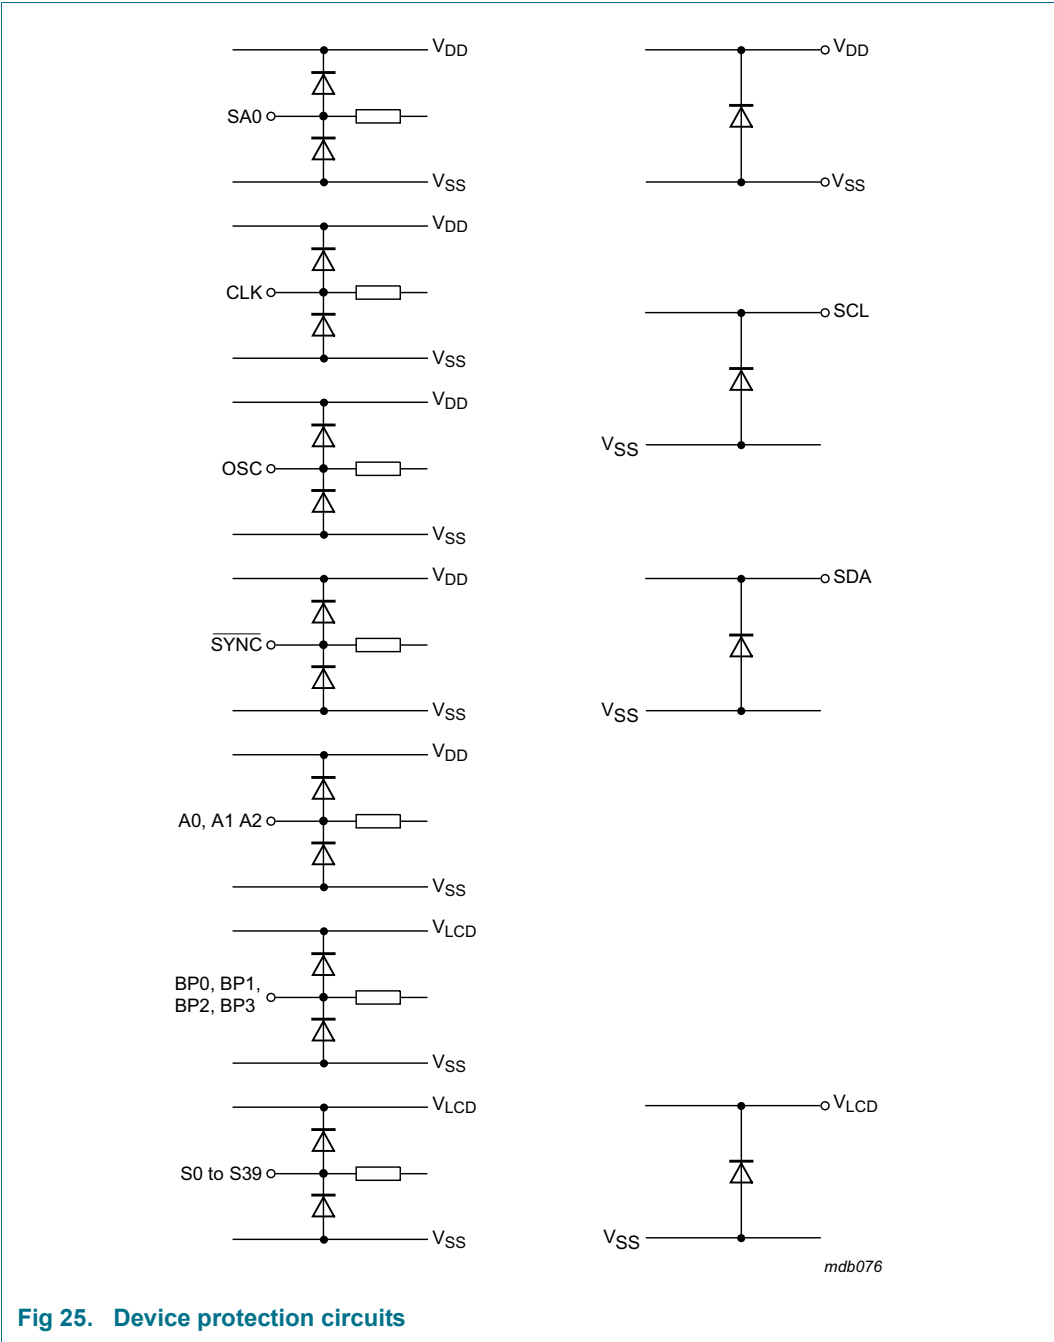

Fig 25. Device protection circuits
- [4] When tested, I²C pins SCL and SDA have no diode to V_{DD} and may be driven to the V_I limiting values given in Table 19 (see Figure 25 as well).